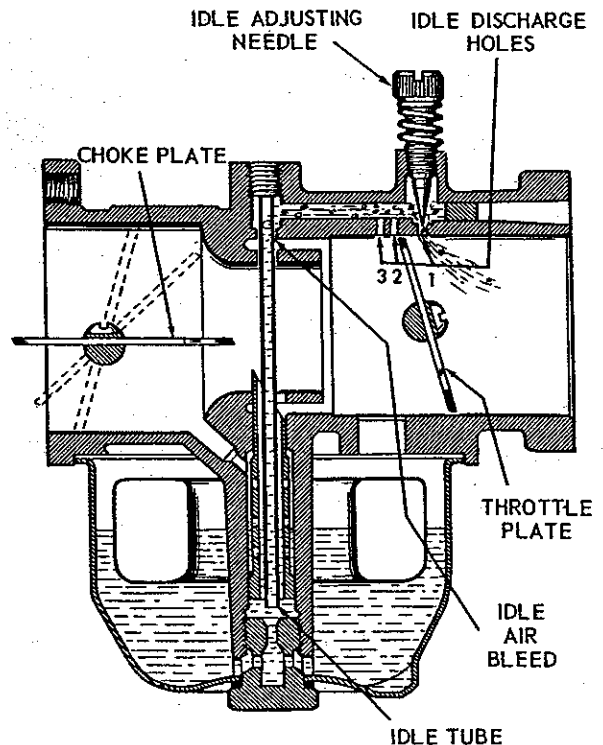

Fig. 2 IDLE AND CHOKE SYSTEMS
#### IDLE SYSTEM (Fig. 2)
### CHOKE SYSTEM (Fig. 2)
1. Slide throttle shaft and lever (23) into seal retainer (3) and seal (2). Insert shaft into throttle shaft hole at manifold end of throttle body (1). Seat shaft in hole on opposite side of throttle bore and press seal and retainer firmly against shaft hole boss.
2. Rotate throttle lever so flat center section faces out manifold opening. Install throttle plate (13) with screws (14), using small screwdriver.
3. Slide choke shaft and lever (15) into choke shaft hole and seat in hole on opposite side of air intake bore.
4. Rotate choke shaft so flat center section faces out intake opening. Install choke plate (16) with screws (17), using small screwdriver.
5. Lay throttle body down with fuel bowl side up and install bowl to body gasket (11).
6. Install washer (21) and fuel valve seat (part of 20). Use large screwdriver to tighten seat to 100 in.-lbs. Insert valve, spring and pin (parts of 20) into seat.
7. Install float (9) and float axle (10) on support brackets of throttle body. Check operation of the float to be sure the hinge and axle do not bind and that the float moves in a perpendicular direction.
8. Install throttle stop screw (7) and spring (8). Adjust screw to open throttle slightly but not far enough to uncover #2 idle discharge hole, see Fig. 2.
9. Install idle adjusting needle (5) and spring (6). Screw needle IN (clockwise) until it seats lightly against the #1 idle discharge hole, then back it out 1½ turns as a preliminary idle adjustment.